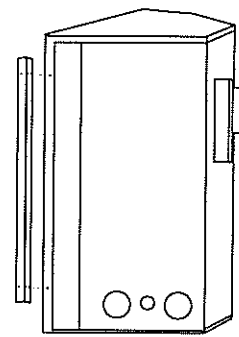

Fig. 6
5. Screw through slotted holes in drywall strip and then screw into pre-drilled holes on fireplace side. Measure from face of fireplace to face of drywall strip to determine final depth. (Fig. 6 & 7)